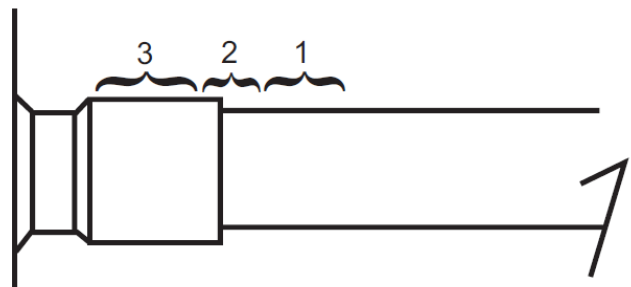

Figure 2 - Tube Brazing
- Apply heat in Area 1. As tube approaches brazing temperature, move torch flame to Area 2. (See Figure 2.)